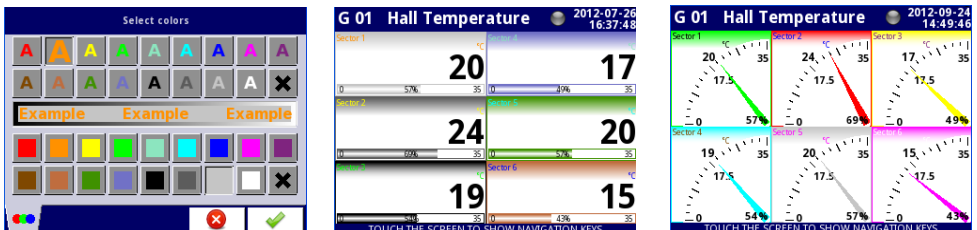

Fig. 7.140. Style color select screen and examples of views with changed styles
- **Style** – defines the color which will be used to draw the logical channel selected in this **Slot**. The user can specify the font color in the channel (except value color) and the drawing color of all elements connected with channel visualisation (see Fig. 7.140). By using black **X** buttons the user can return to default settings.